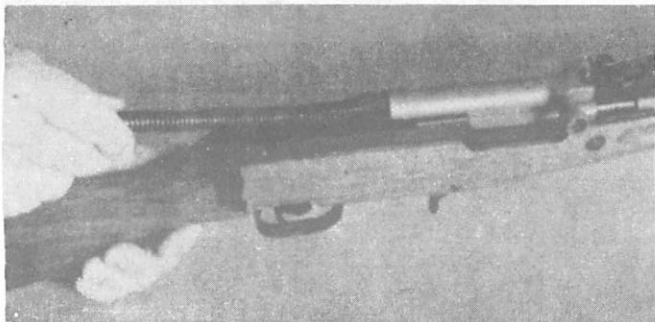

Fig. 10
2. Remove the recoil spring and spring guide from the bolt assembly (Fig. 10).